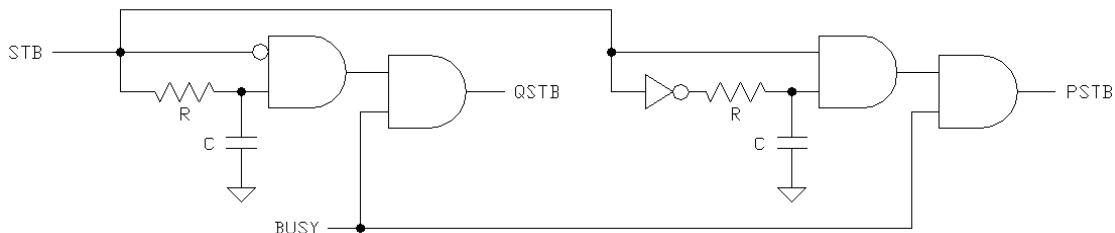

Figure 12. Simplified QSTB & PSTB edge detector circuits
Figures 12 and 13 depict the operation of the QSTB and PSTB edge detector circuits. The QSTB pulse is produced by delaying an inverted version of the input signal (using an RC time constant) and feeding both signals through an AND gate. The width of the pulse is proportional to the value of RC (15 K Ω and 0.001 μ F) and the switching threshold of the AND gate. Using the equation for RC decay (where V(RC) is normalized), $V(RC) = 1 - e^{-t/RC}$, and solving for t gives $t = -RC \ln(V(RC))$. If one assumes a 50% gate switching threshold for V(RC), the values of R and C used in the UX modules result in a pulse width of about 10 μ s.